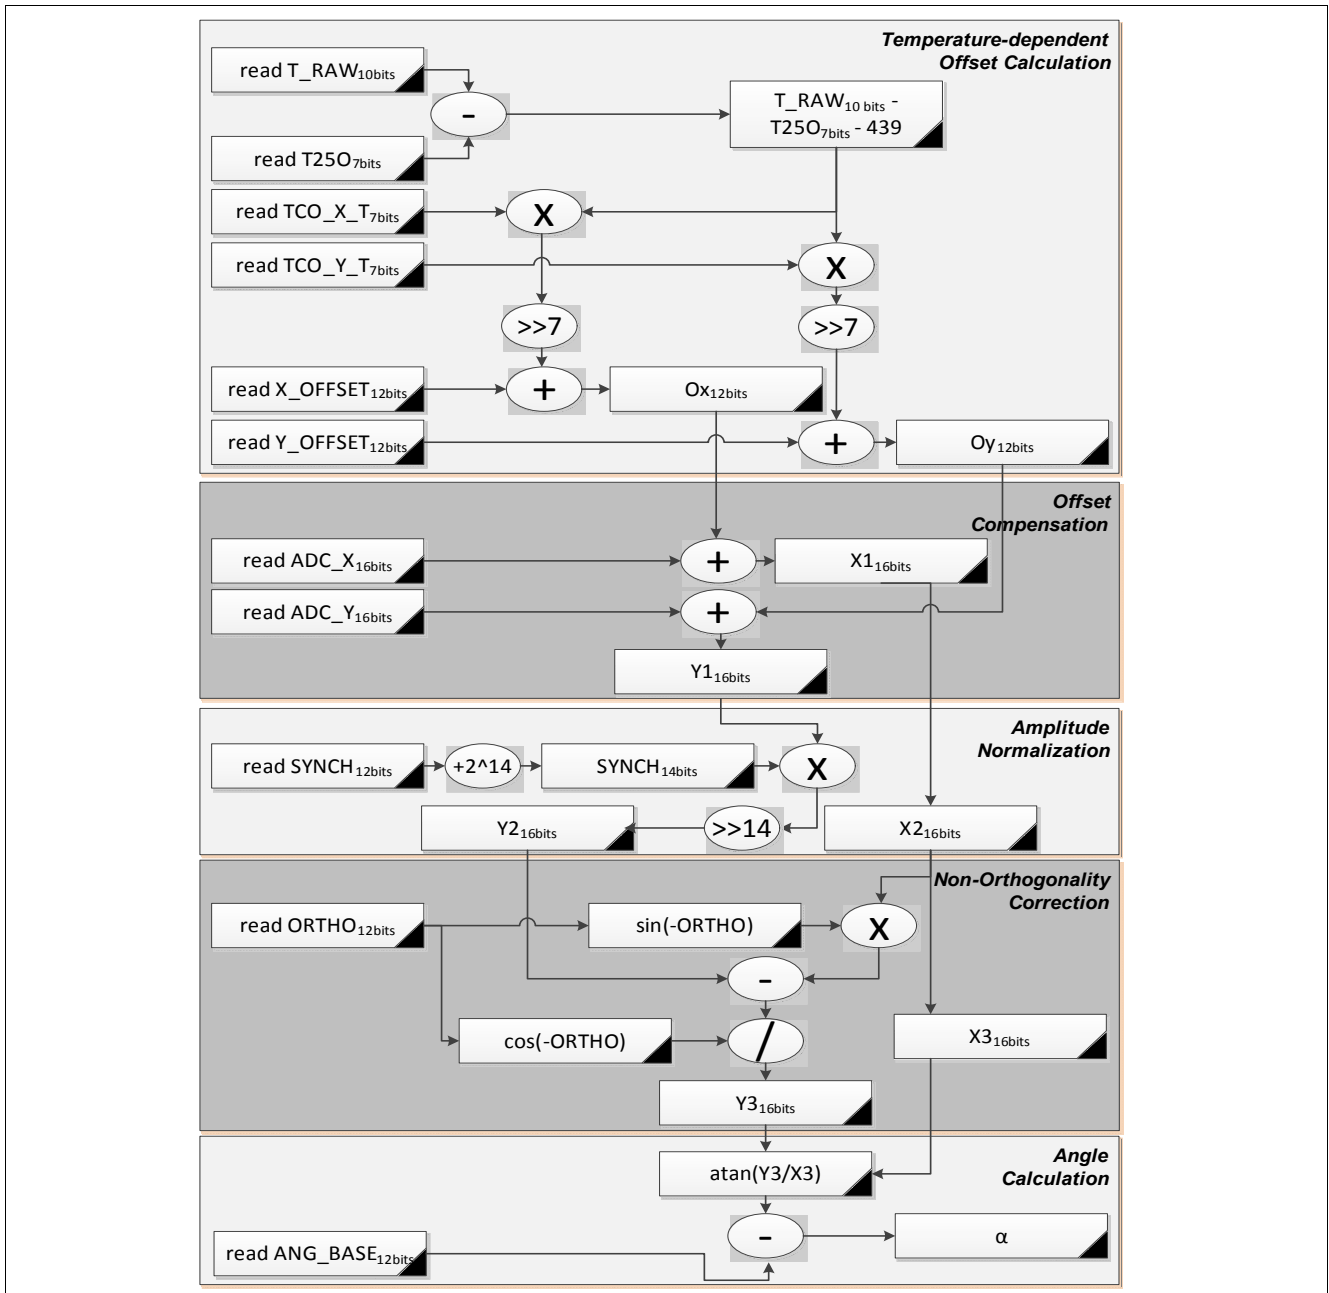

Figure 5-10 Flow-Chart of Angle Calculation from the X-raw and Y-raw values
**Figure 5-10** shows the flow chart of angle calculation from the X-raw and Y-raw values as described above.